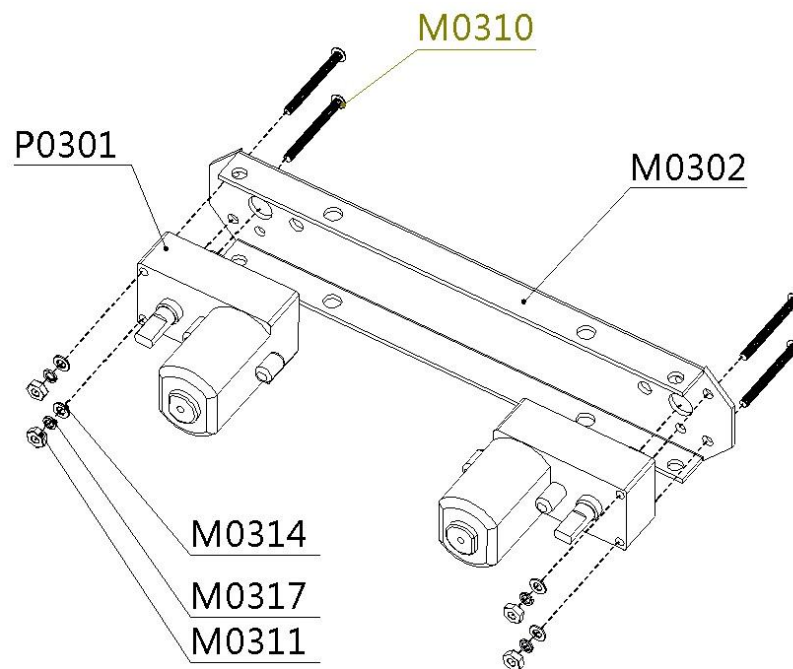

Figure 4-1
2. Figure 4-1; insert the two motors into the frame and using the given truss screws secure it. Note the direction of the motors, ensure the holes line up properly between the motor and truss. For details please see Figure 4-1 above.